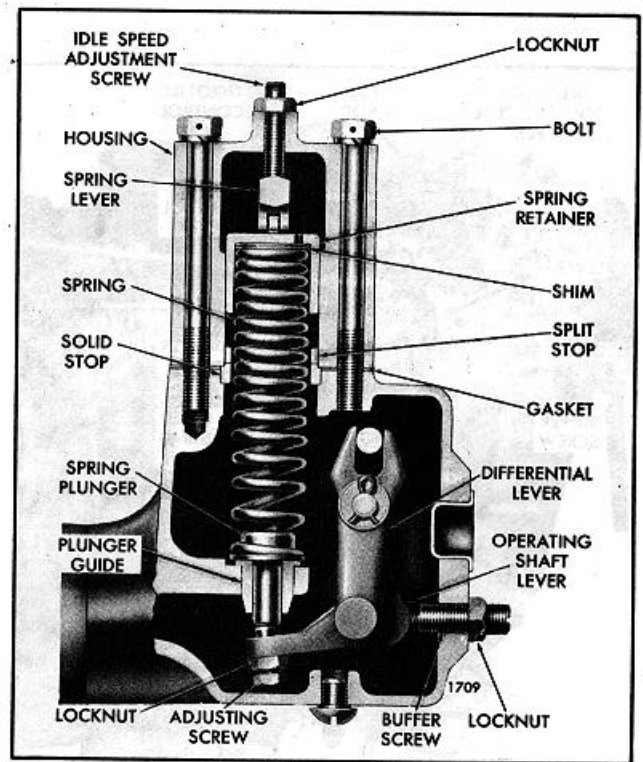

Fig. 6 - Location of Stops and Shims
3. Refer to Table 1 and Fig. 6 and determine the stop or shim required for the desired full load speed.
A split stop can only be used with a solid stop (Fig. 6).